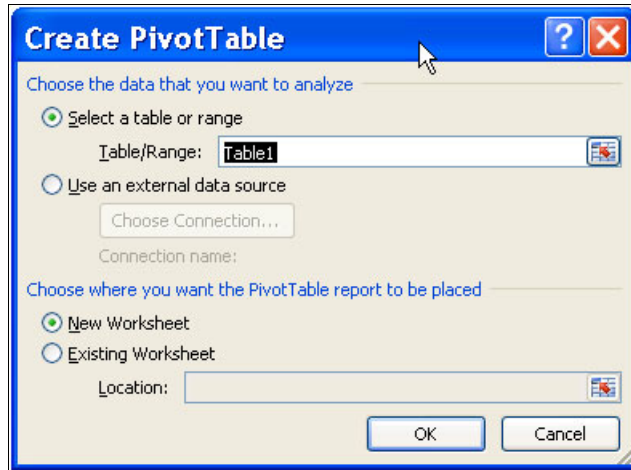

Figure 17 Using the table that you created
1. Inserting a new pivot table prompts you for the location of the table or range. Because we are using a table (due to the XML coding), you can select **Table1**, choose to place it in a **New Worksheet**, and click **OK**. Figure 17 shows an example of the Create PivotTable option panel.